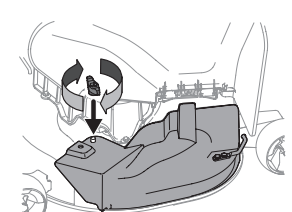

Figure 7
4. Secure the mulch plug in place with the wing knob. See Figure 7 for fabricated and stamped decks.